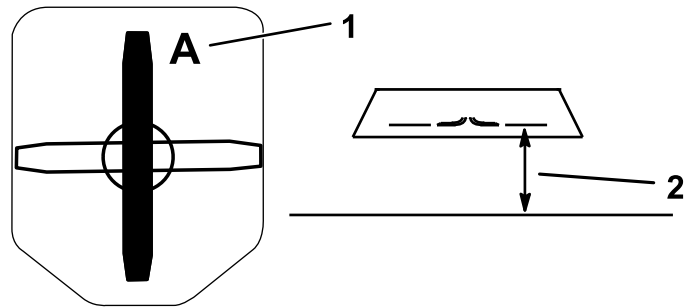

Figure 36
2. From a level surface, measure the distance to the cutting edge at position A of the blade (Figure 36).